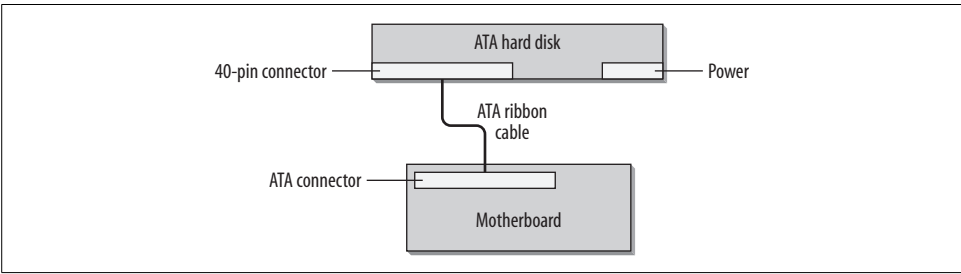

Figure 2-20. The ATA interface separated the drive and the controller.
*Integrated disk electronics*, or *IDE*, has had many incarnations and many names since its introduction in 1986. Originally, hard drives were small enough, in both size and capacity, to fit directly onto disk controllers. As storage requirements grew, manufacturers realized that housing drives on controller cards was an inefficient use of space. Soon drives and controllers became separate entities, connected by ribbon cable. This meant that drives could grow in size without interfering with the expandability of the motherboard. It was common for these integrated controller cards to make adjacent slots on the motherboard inaccessible. Manufacturers eventually decided that portions of the controller could be housed directly on the drives and that creating a standard drive interface would allow for both expandability and portability. Originally called IDE in several proprietary implementations, a standardized version called the *AT Attachment*, or *ATA*, was eventually ratified (although many people still use the terms IDE and ATA interchangeably). This new disk interface was called the AT Attachment because it was introduced with the ISA (AT) motherboard. It quickly grew in popularity, and today the ATA interface is the most widely deployed consumer disk interface. Figure 2-20 shows the ATA interface.